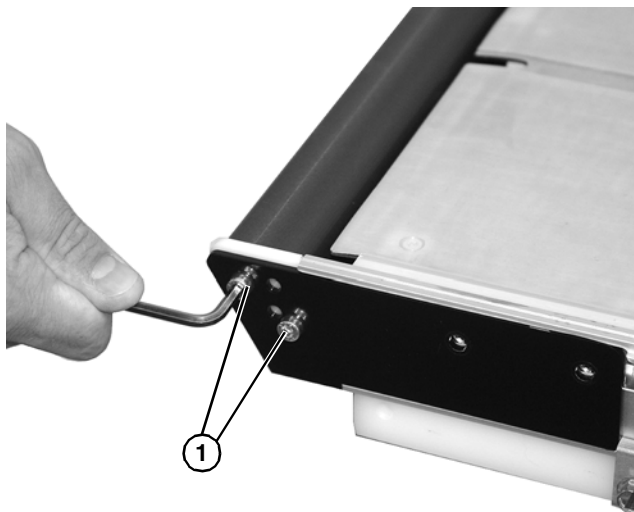

Figure 66
2. On the same side of conveyor, remove two (2) fastening screws (Figure 66, item 1).